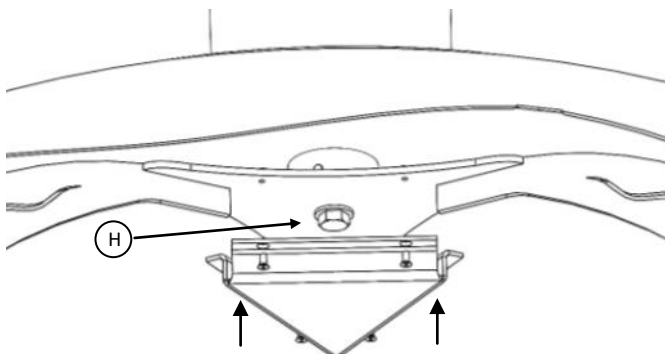

**Figure 6—** Assembly representation
Then, place the lower part of the fireplace (G), figure 6, and screw the rod (E), figure 7.